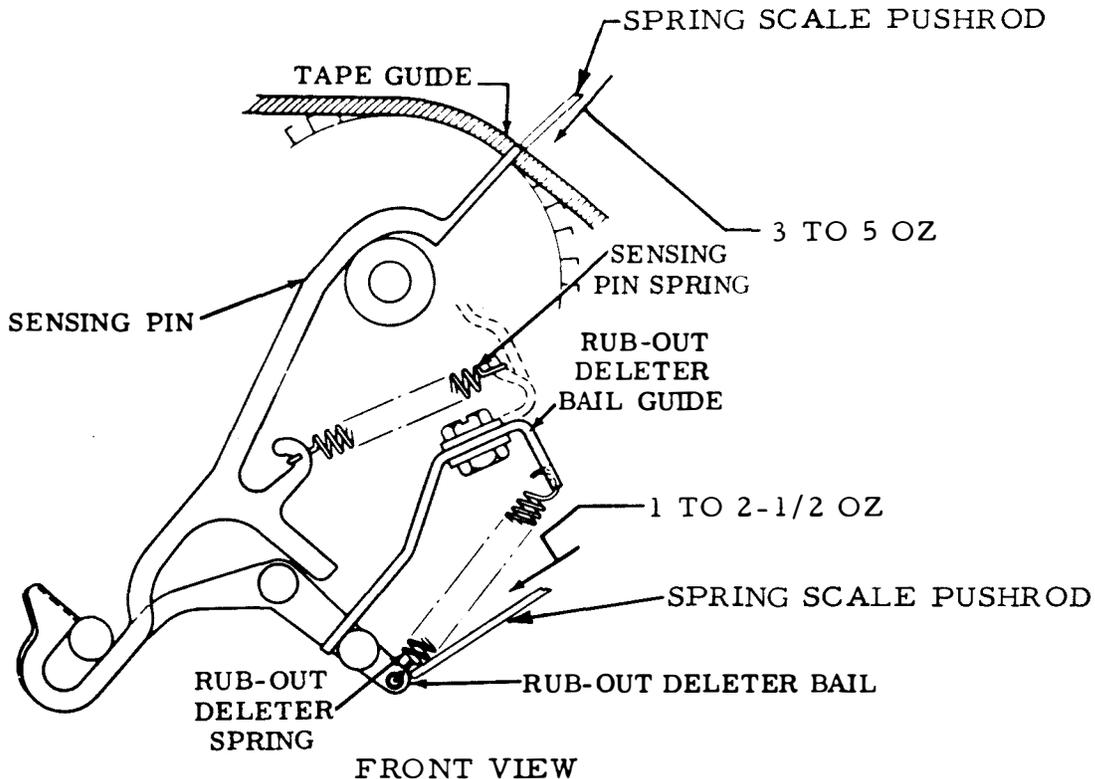
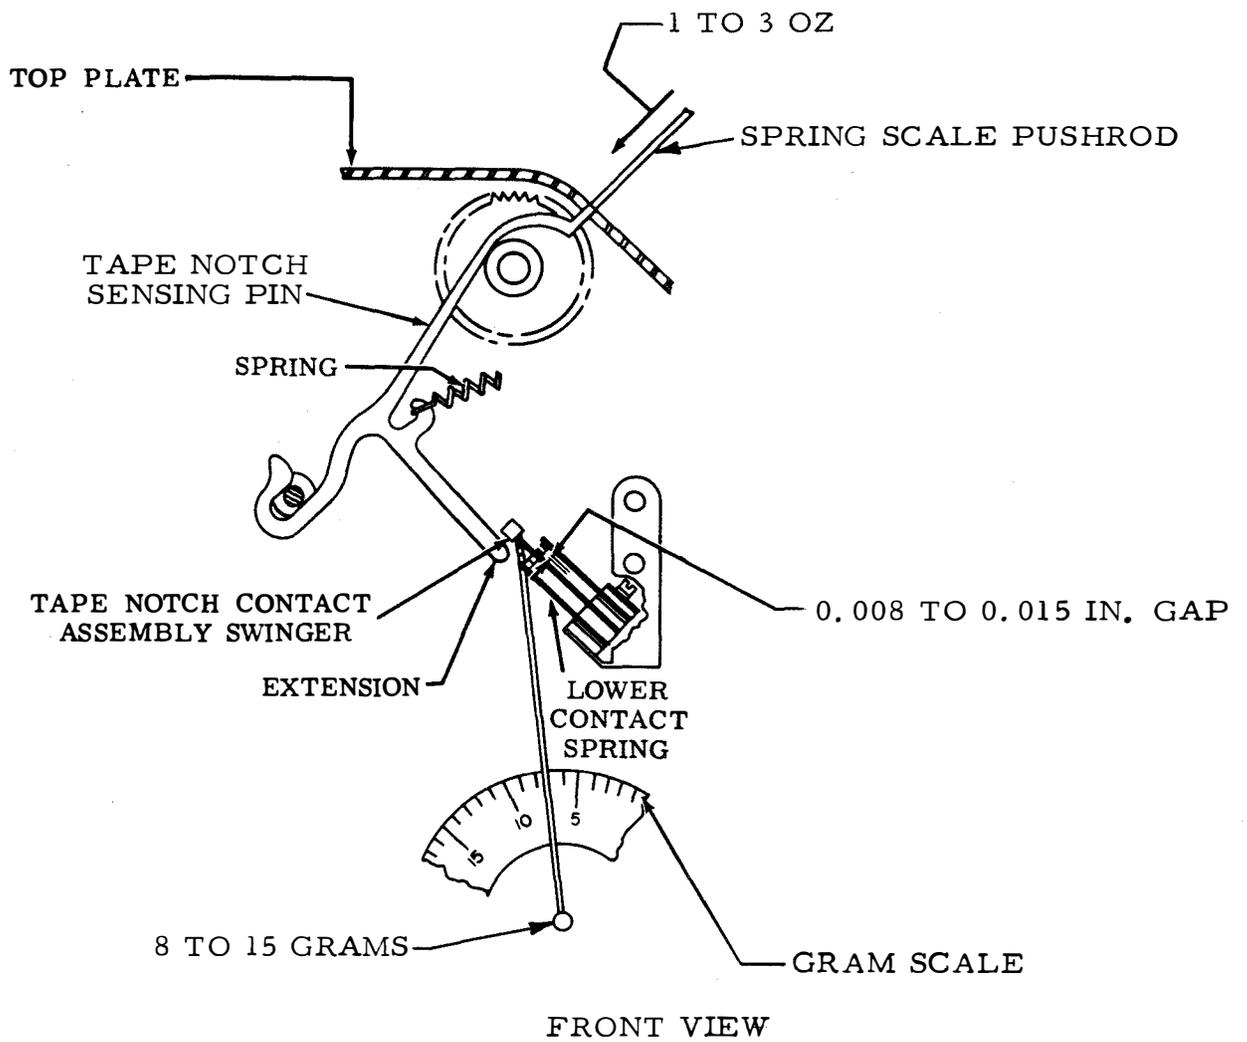

Figure 6-68. Sensing Pin Spring and Rub-Out Deleter Bail Spring
Figure 6-69. Tape Notch Sensing Pin Spring and Tape Notch Sensing Contact
(a) Refer to figure 6-68.
(3) Rub-Out Deleter Bail Spring. Adjust rub-out deleter bail spring as follows:
- (a) Refer to figure 6-68.
(1) Tape Notch Sensing Pin Spring. Adjust tape notch sensing pin spring as follows:
- (a) Refer to figure 6-69.
(a) Refer to figure 6-69.